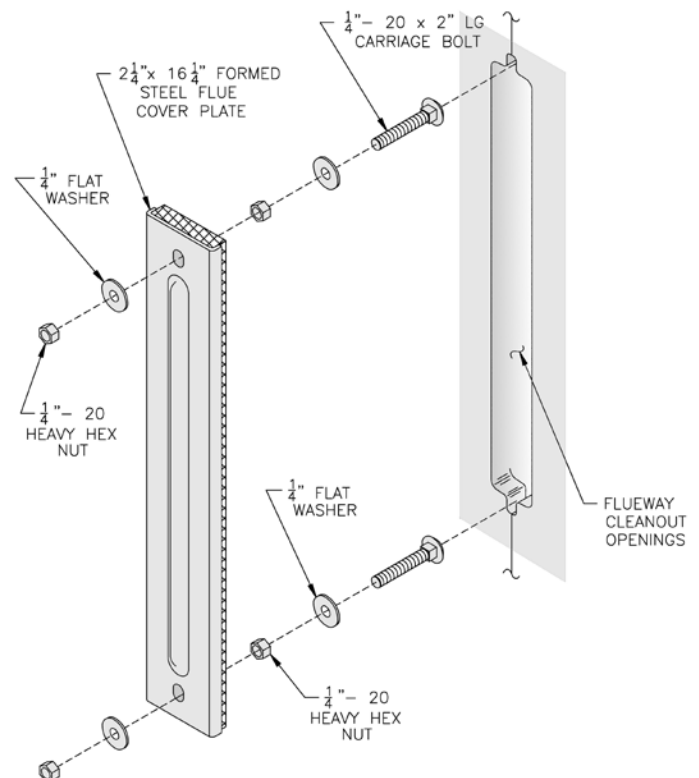

Figure 19: Flue Cover Plate Attachment
B. INSTALL FLUE COVER PLATES over cleanout openings on left side of boiler as shown in Figure 19. **See Important Product Safety Information on Page 21 of this manual, regarding refractory ceramic fiber product warning.**
2. Remove insulation from two (2) 3/8" diameter holes in flue cover plates using a 3/8" drill bit. Rotate bit through insulation by hand.